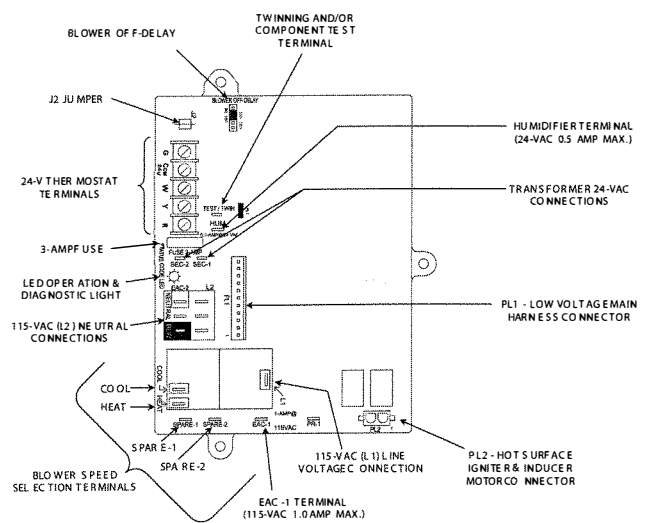

Fig. 2 - New Style Furnace Control Board
4. Humidifier connection is removed from thermostat terminal block. It is now a 1/4-in. spade terminal, next to the thermostat terminal block. See Fig. 2.
- a. The 11-pin connector connects to PL1 on the furnace control board. See Fig. 2 and 3.
- b. The 2-pin connector which has 2 black wires connects to PL2 on the furnace control board. See Fig. 2 and 3.
- c. The 2 white wires connect to the 115-volt Neutral spade connections, located in front of PL1 on the new furnace control board. See Fig. 2 and 3.
5. Connect the transformer to the new furnace control board. See Fig. 2.
6. Connect black wire from furnace auxiliary junction box to L1 on the new furnace control board. L1 is located on the blower enable relay. See Fig. 2.
7. Connect white wire from furnace auxiliary junction box to one of the 115-volt Neutral spade connections located in front of PL1. See Fig. 2.
8. Connect the blower motor leads to the new furnace control board. See Fig. 2.
11. Set blower off delay. **Blower Off Delay Jumper Select** is located on the top-center portion of board. See Fig. 2. It is factory set at 120 seconds.